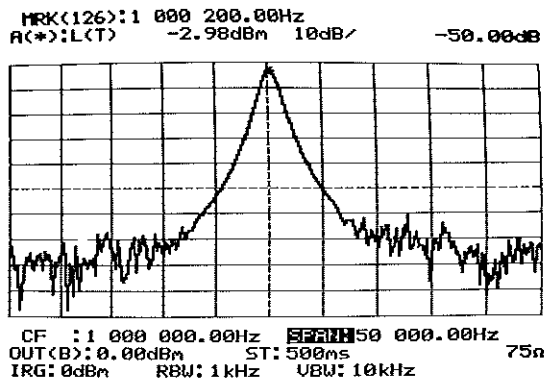
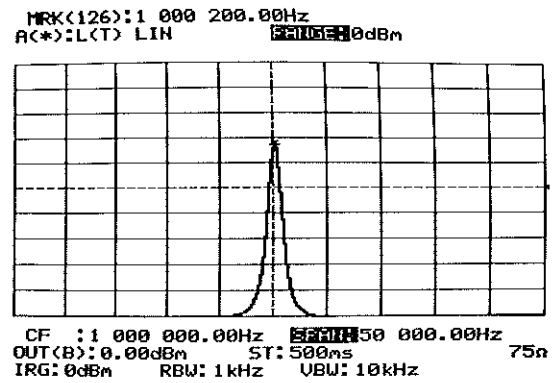
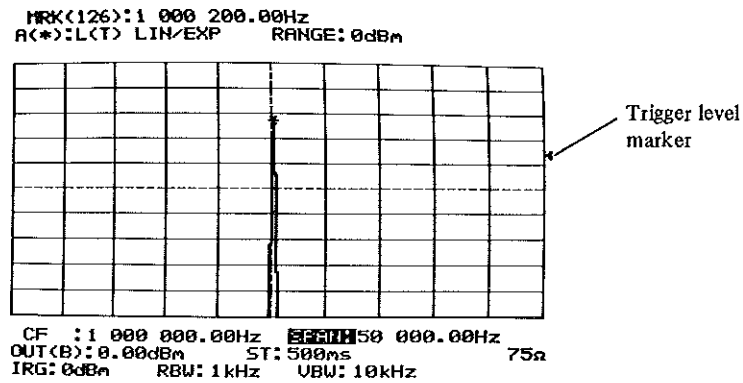

Fig. 3-39 Logarithmic Display
Fig. 3-40 Linear Display
Fig. 3-41 Linear Expanded Display
Figure 3-39 shows a logarithmic display when measuring a signal in L(R), L(T), S(R) or S(T).
Figure 3-40 shows the waveform displayed on the CRT when the LIN lamp is turned on under the same conditions as given above.
Figure 3-41 show the waveform displayed on the CRT when the EXP lamp is turned ON under the same measuring conditions as given in Fig. 3-39. In this figure, the waveform is expanded 10 times around the trigger level marker shown in Fig. 3-40.